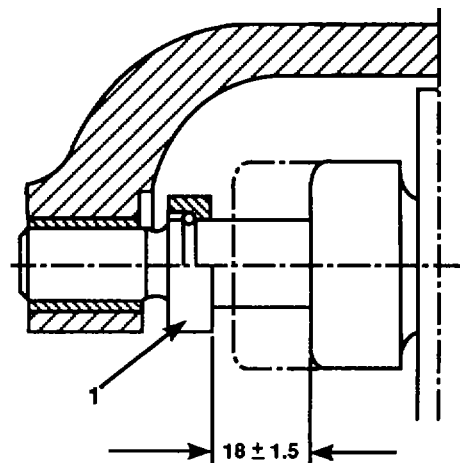

Figure 4-63. Pinion Depth
39. Check the spacing between the pinion (in the normally off position) and the stop ring (figure 4-63). The spacing should be 0.70 to +0.060-inch (18 ± 1.5 mm).